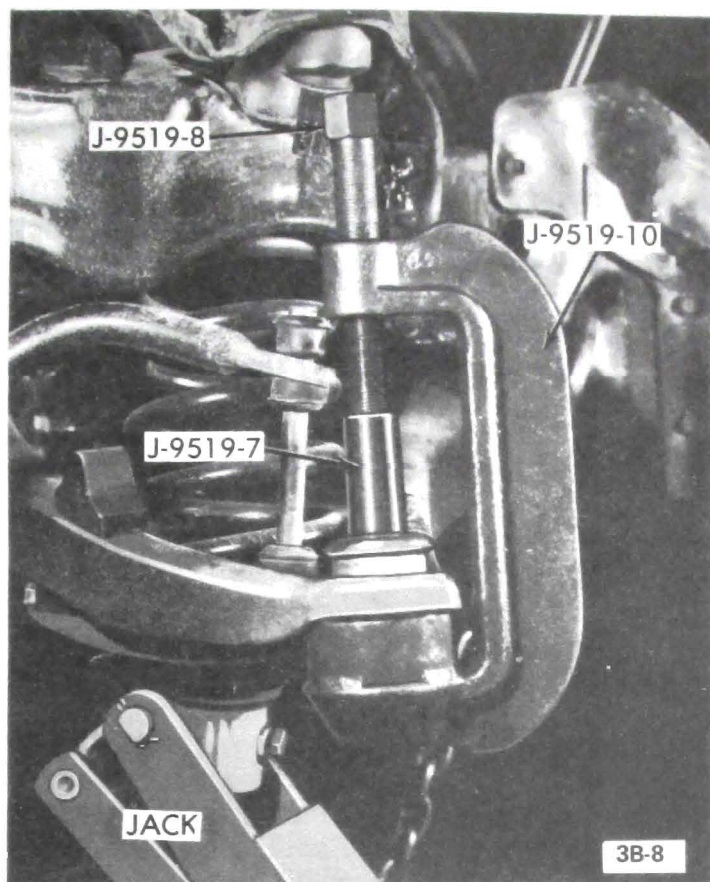

Figure 3B-8 - Lower Ball Joint Remover in Place
1. Position ball joint in lower control arm and install Tool J-9519 as shown in Figure 3B-9. Position bleed vent in rubber boot of the new ball joint facing inward.